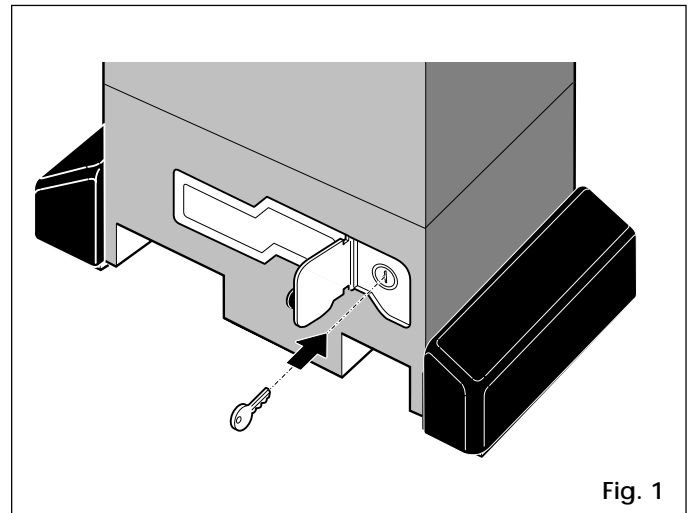

Fig. 1
Check the quantity of oil in the operator periodically. For medium-low duty cycles an annual check is sufficient; for more intensive use, check every 6 months. To access the oil reservoir, remove the the oil filler cap (Fig.1 rif.10).
- 1) Open the lock cover plate and insert the key supplied in the lock (Fig.1).